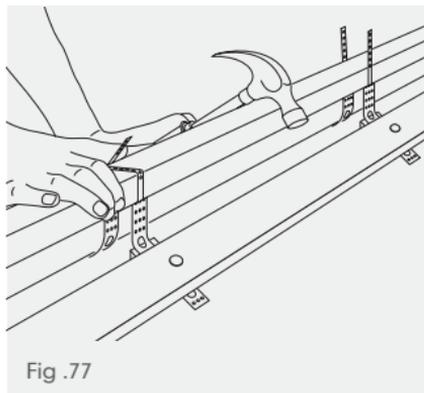

Fig. 77
- 3 Place the ridge batten(s) along length of ridge between the perforated straps of ridge batten brackets. Bend over the straps and nail each securely to the ridge batten using the nails supplied. Joints in ridge batten should be made half way across a ridge batten bracket to ensure the ends are secured (Fig. 77).